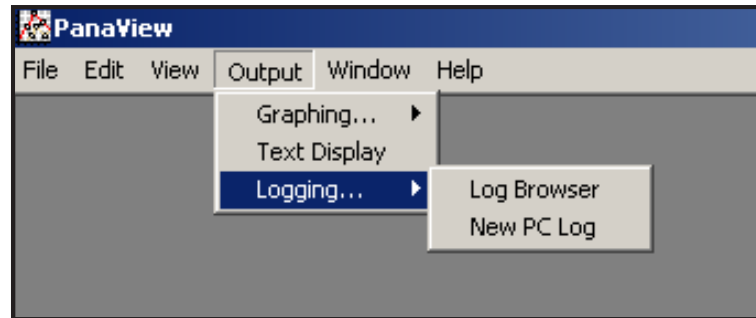
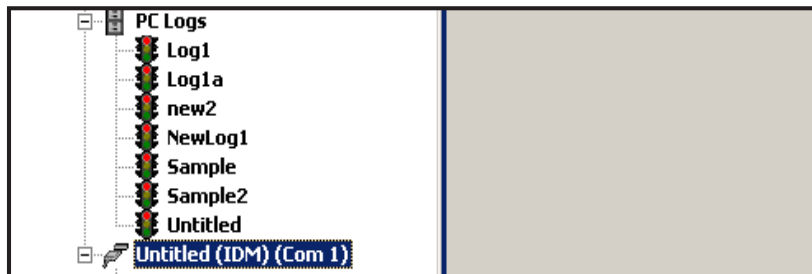
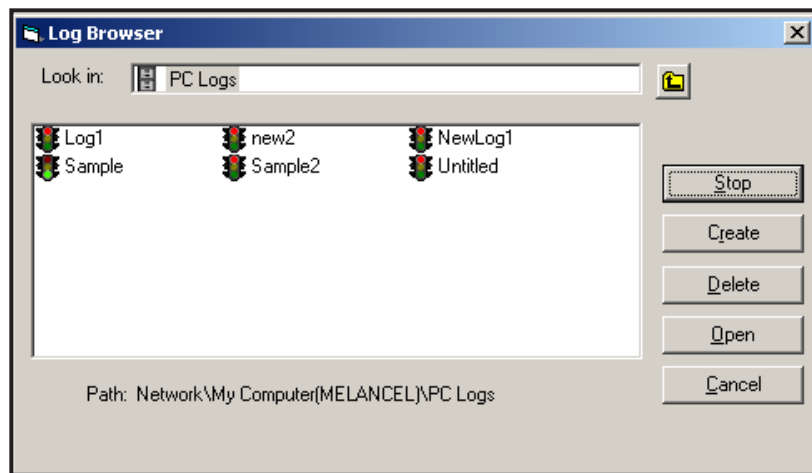

Figure 13: Selections in the Logging Option
Figure 22: Expanded PC Logs Option
Figure 23: Selecting a Log File from the Log Browser
1. Open the *Output* menu (see Figure 13), and click on the *Logging* option.
- From the *New Meter Browser* in PanaView, expand the network tree and click on the *PC Logs* option. If you have created one or more logs, the tree will appear similar to Figure 22. Double-click on the log name to open the log, or
- Pull down the *Output* menu (see Figure 13 on page 55), and click on the *Log Browser* option. Advance to the *PC Logs* dialog box as described in previous sections. A screen similar to that shown in Figure 23 appears.
Notice that each of the log files in Figure 22 and Figure 23 has a traffic light icon next to its name. These icons indicate the current status of the log as follows: